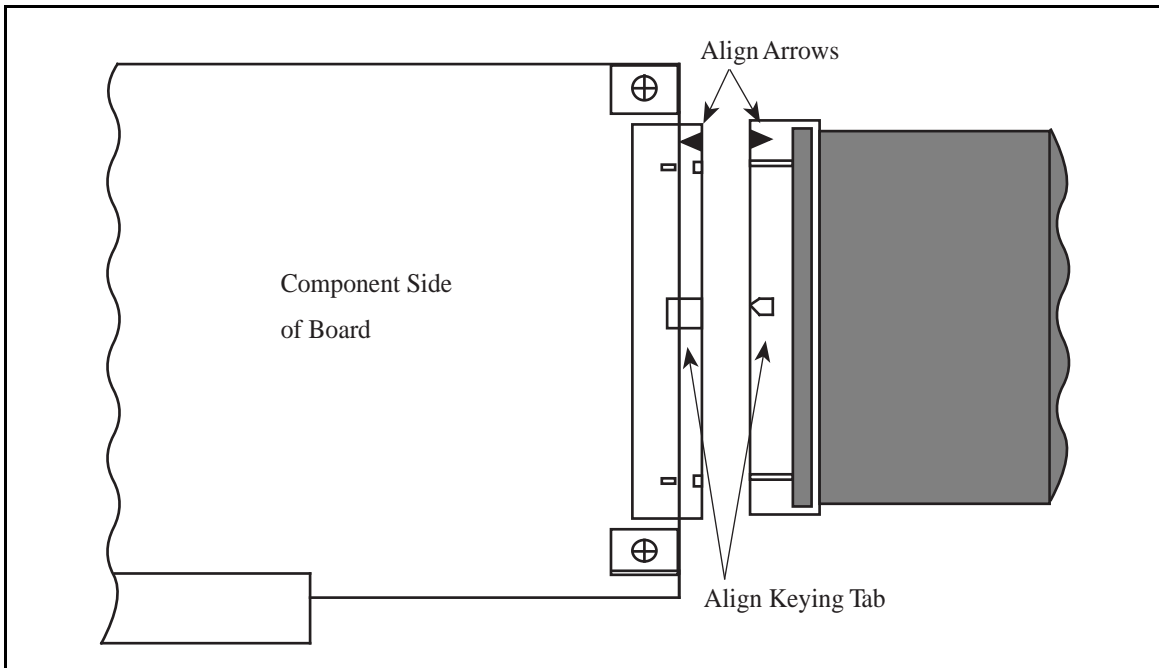

Figure 1. Connecting the 50-Pin Connector to Your Data Acquisition Board
1. Plug either end of the ribbon cable into the 50-pin rear panel connector on the board. Align the tabs and arrows as shown in Figure 1.